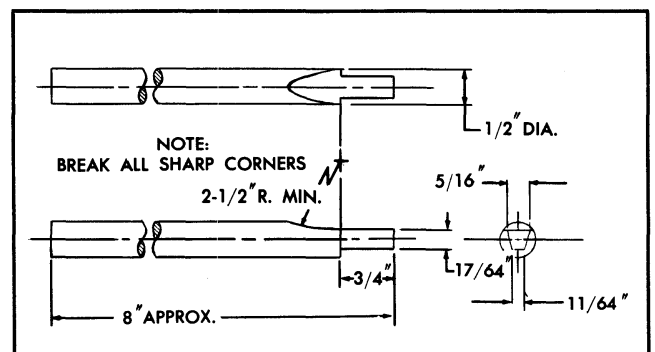

Fig. 6-130 Rear Main Bearing Oil Seal Tool
4. Use tool shown in Fig. 6-130 made from brass bar stock to pack upper seal as follows: